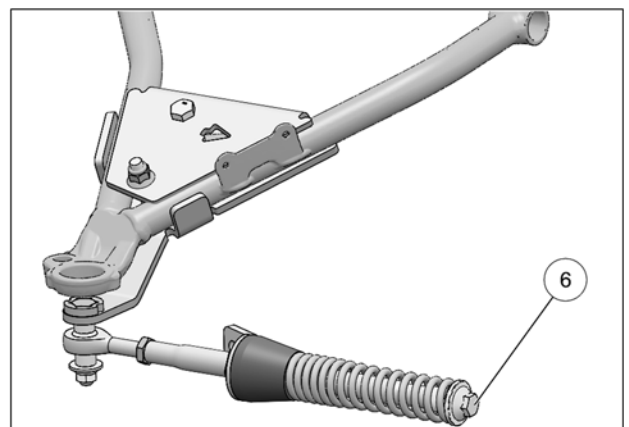

Fig. 20
- Verify that spring assembly bolt (6) is tightened to the recommended torque specification: $75\text{ N}\cdot\text{m}$ [$55\text{ lb}\cdot\text{ft}$]. Refer to Fig. 20